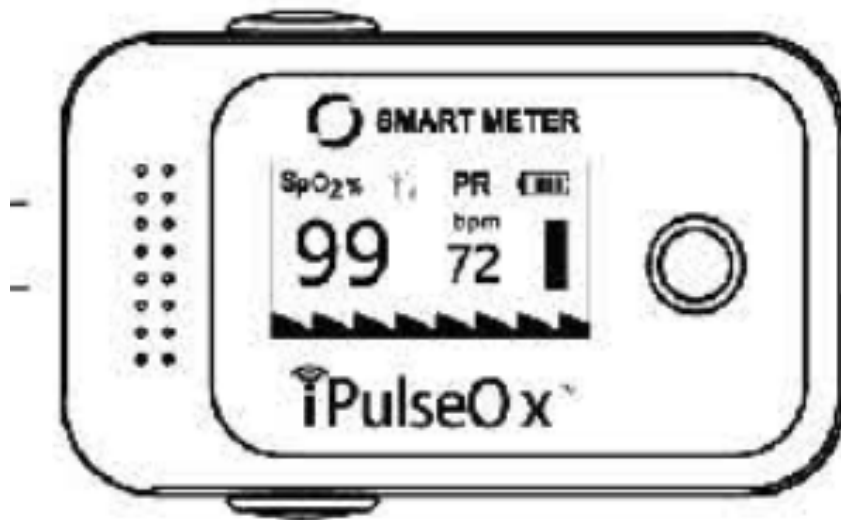

Figure 6
2. Press the white button and turn on the device. Wait for a moment, the spO₂ value and PR value will be displayed on the OLED screen after wave and measured values are stable, as shown in Figure 6.